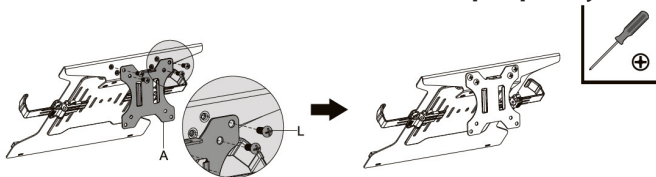

Figure 10
1. Align the four holes, located at the top-back of the **Laptop Tray (C)**, with the top four holes, located on the **VESA Mount (A)**. (Figure 10)
2. Insert four **Laptop Tray Mounting Screws (L)** through the holes, located in the **VESA Mount (A)** and into the **Laptop Tray (C)**, and tighten, using a **Phillips Head Screwdriver**, to complete the **Laptop Mount Assembly**.